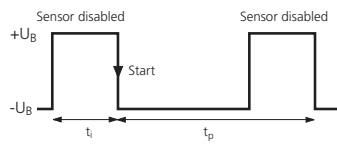

Fig. 3: External synchronization signal
- Apply a square-wave signal to the sync-input with pulse width  $t_i$  and repetition rate  $t_p$  (Fig. 3 and technical data).